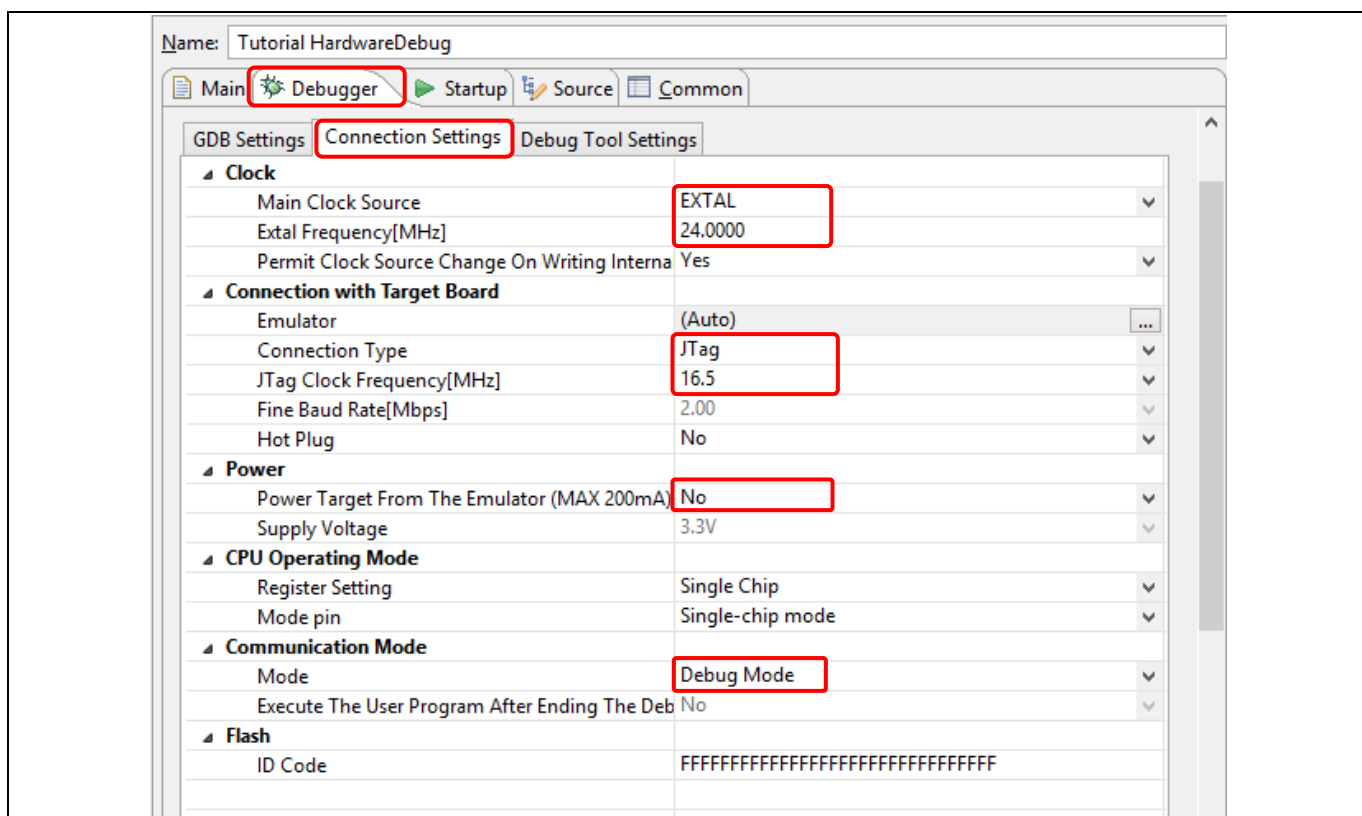

Figure 5-5 Change Connection Setting
**Note:** This debug configuration in Figure 5-5 is shown as an example. The wrong settings may cause malfunction or damage to the hardware. So, be cautious to verify the board and emulator settings before connection.